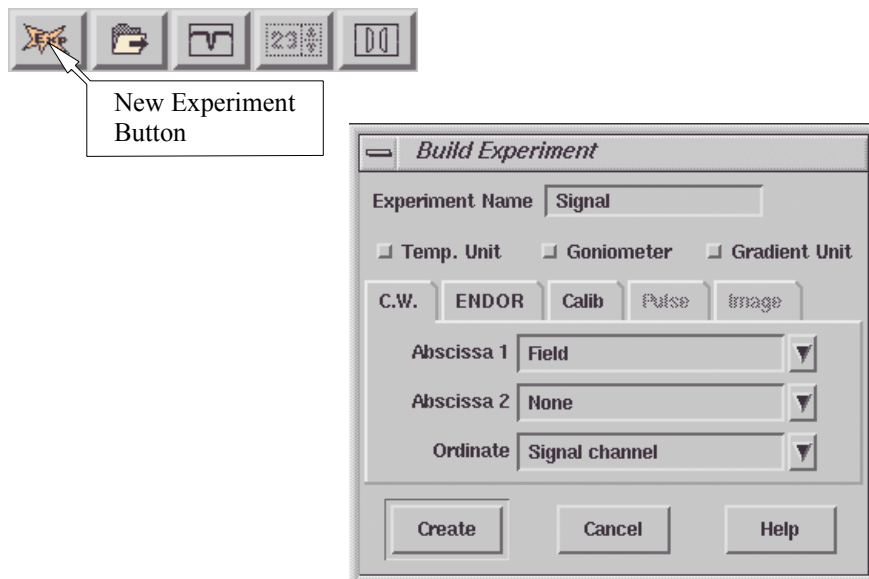

Figure 3-2 Creating an experiment to measure the weak pitch signal.
1. **Create an experiment to measure the signal.** Click the New Experiment button to bring up the dialog box. (See Figure 3-2.) Click the C.W. tab and select Field for Abscissa 1. It is a good idea to assign the Experiment Name as Signal. Click Create to continue.